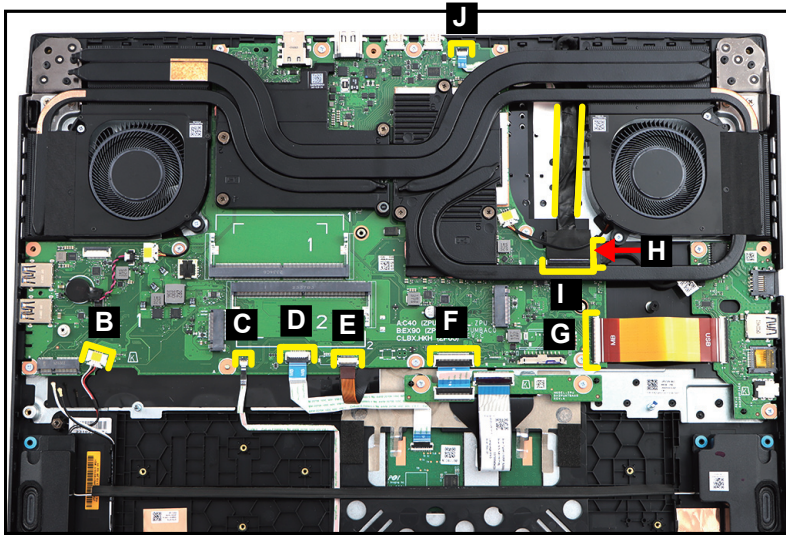

Figure 1-33. Mainboard Removal
2. Disconnect the speaker cable from the mainboard connector (B) (Figure 1-33).
3. Disconnect the microphone FFC from the mainboard connector (C) (Figure 1-33).
4. Disconnect the touchpad FFC from the mainboard connector (D) (Figure 1-33).
5. Disconnect the keyboard backlight FPC from the mainboard connector (E) (Figure 1-33).
6. Disconnect the transfer board FFC from the mainboard connector (F) (Figure 1-33).
7. Disconnect the USB board FPC from the mainboard connector (G) (Figure 1-33).
8. Disconnect the USB power cable from the mainboard connector (H) (Figure 1-33).
9. Disconnect the eDP cable from the mainboard connector (I). Then detach the cable from the cable guides as shown in Figure 1-33.
10. Disconnect the turbo key board FFC from the mainboard connector (J) (Figure 1-33).